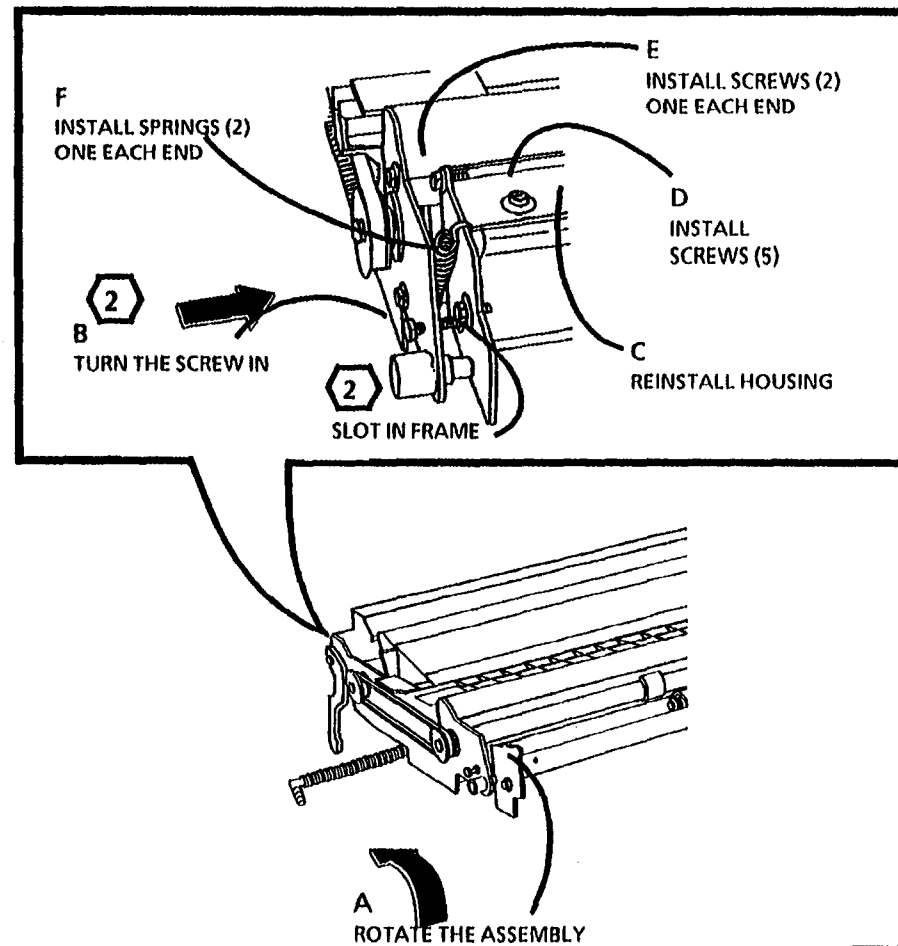

Figure 4. Install the Springs
2. (Figure 4): Install the Springs.